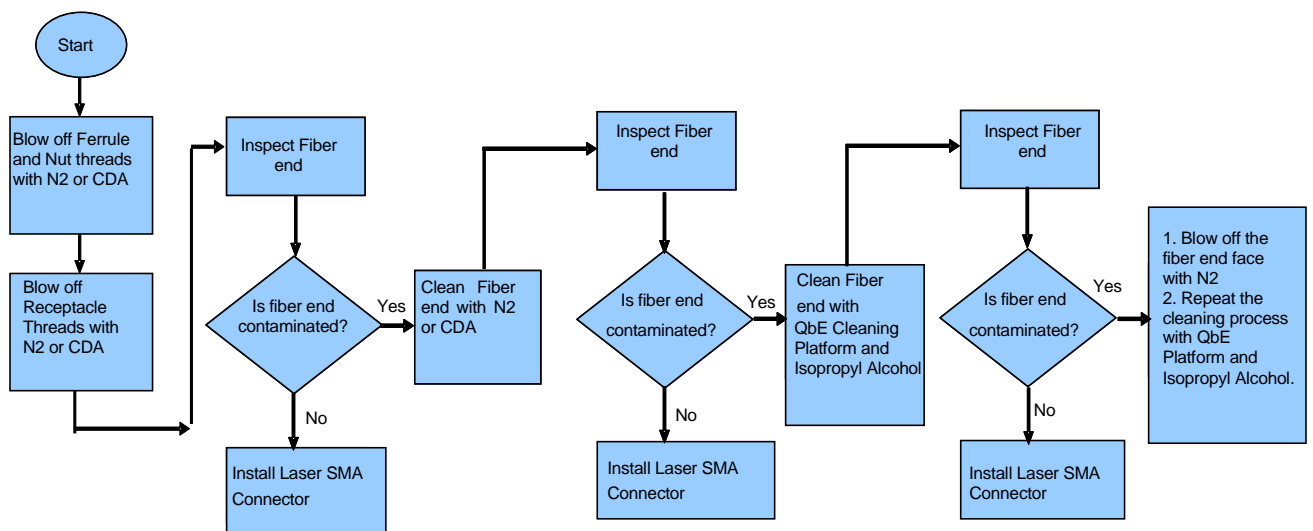

Figure 11: Fiber Cleaning Process Flowchart
- Follow the fiber inspection and cleaning process (Figure 11) before making a laser fiber SMA connection. As shown in the figure, inspecting and cleaning is an iterative process. The final step of the cleaning should always be a successful inspection. Sometimes the cleaning action redistributes particles from an area that is not visible with the inspection scope (and not problematic) to area that is visible (and is problematic). Because of this, we recommend that the first step is to remove any loose particles or debris with pressurized N2.